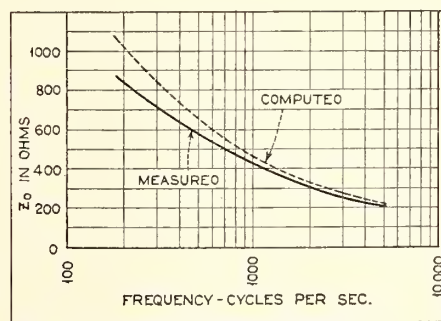
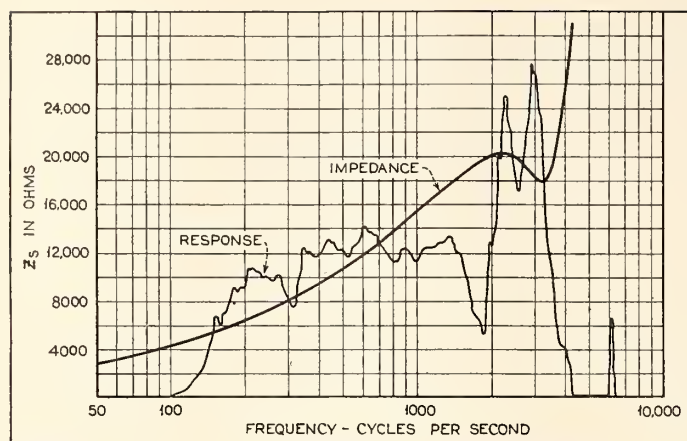

Fig. 1. Characteristic impedance of No. 19 rubber covered twisted pair. $C=0.00129$ m.f. per 100 feet loop. $R=1.73$ ohms per 100 feet loop.
Fig. 2. R103 magnetic speaker impedance and response.
An equivalent method consists of measuring the capacity of the open line with, for instance, a portable buzzer capacity bridge and then measuring the resistance with the far ends short-circuited by means of a low-reading ohmmeter or Wheatstone bridge. The impedance at any frequency can then be calculated from expression (3). Fig. 1 was obtained from such measurements on a length of No. 19 B&S gauge, rubber-insulated twisted pair. The computed curve was calculated from resistance and capacitance data while the other curve was the result of actual impedance measurements. The values of impedance are typical of those found in practice for this kind of line and vary from about 950 ohms at 200 c.p.s. to 250 ohms at 3,000 c.p.s.
As has been pointed out, matching to the source or load can probably be obtained at but one frequency and at all other frequencies there will be a loss of power due to mismatching. This mismatching loss, occurring at the generator and load junctions of the transmission line, is by far the most serious loss encountered in this sort of transmission and has a marked effect on both the quality and power output of the system. The actual attenuation for the twisted pair of Fig. 1 is only about one-half decibel per thousand loop feet at 5,000 c.p.s. over the line itself and is entirely negligible.
A practical method of solving such problems is best indicated by the discussion of a specific case. Other cases involving loads of different character may be handled in an analogous manner. Fig. 2 shows impedance and response curves for a high-impedance magnetic speaker which it is desired to feed from the transmission line of Fig. 1. A step-up transformer will of course be necessary between the low-impedance line and the speaker and our problem thus includes the selection of the proper turn ratio for this transformer.